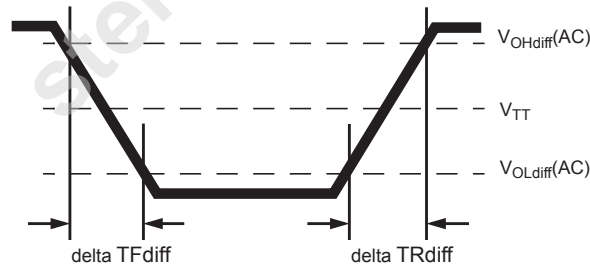

Figure 182 — Differential Output Slew Rate Definition
With the reference load for timing measurements, output slew rate for falling and rising edges is defined and measured between VOLdiff(AC) and VOHdiff(AC) for differential signals as shown in Table 80 and Figure 182.